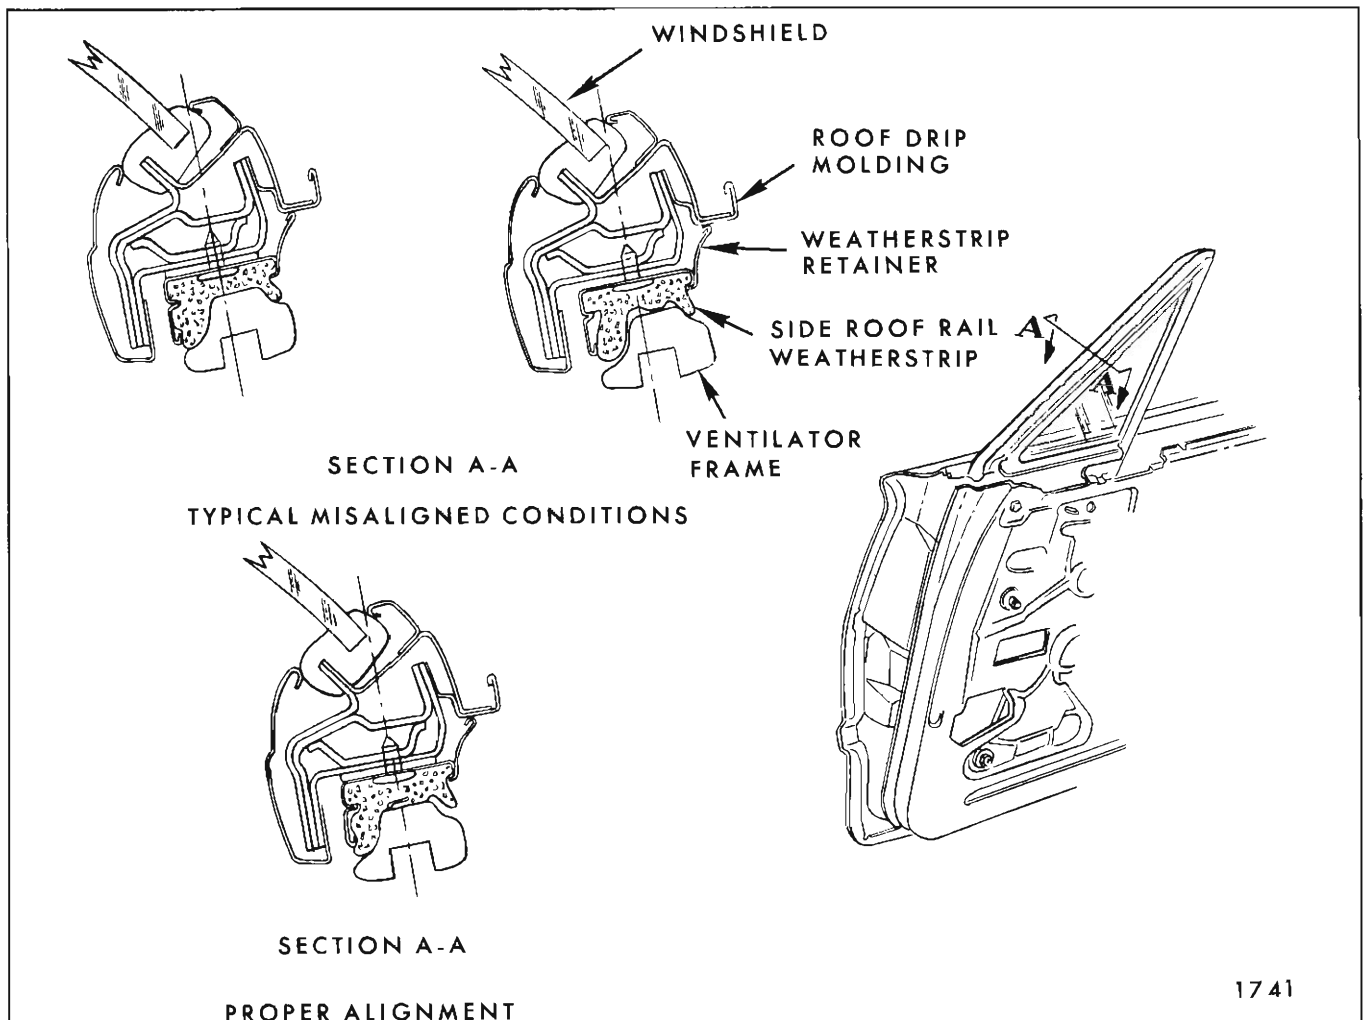

Fig. 1D41—Front Door Ventilator Assembly Alignment
**NOTE:** Figure 1D41 depicts typical misalignments and the correct alignment of the front door ventilator assembly to the side roof rail weatherstrip. This alignment can be quickly checked by lowering front door window and inspecting proper fit of ventilator to side roof rail weatherstrip at top of ventilator division channel. If the ventilator assembly is correctly aligned and door glass is smooth in operation, it is usually safe to assume that the door glass is also correctly aligned to the side roof rail weatherstrip. This fit can be further verified by lowering rear door or rear quarter window and checking fit at top section of front door window to side roof rail weatherstrip. The weatherseal in this area should be the same as depicted for the front door ventilator assembly.